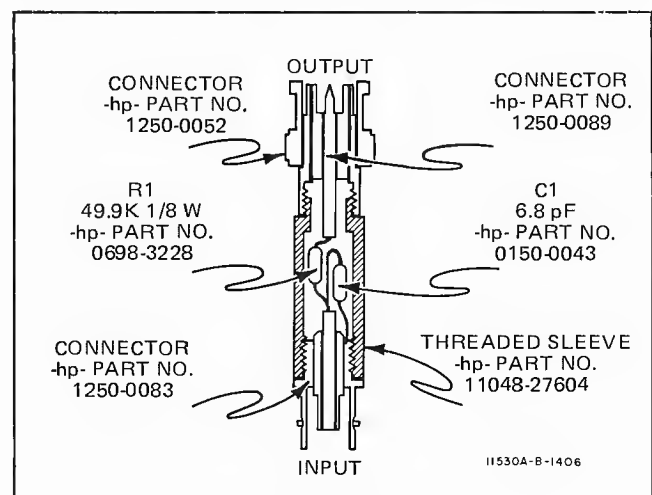

Figure 8-1. Low Pass Filter.
b. Set the oscilloscope for a vertical sensitivity of .01 V/cm dc coupled. Use a 10:1 divider probe and the 50 kHz Low Pass Filter shown in Figure 8-1. Connect the probe to TP36 (APC LOCK 0V) on the A24 Assembly.